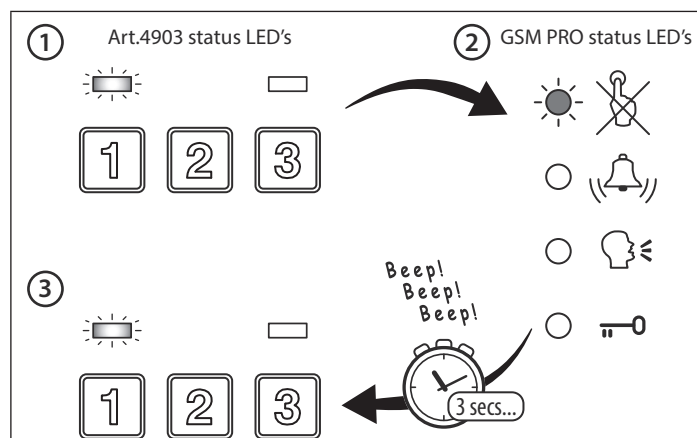

Fig. 104
2. The green data LED (**Fig.104, ①**) on the Art.4903 and the red busy LED (**Fig.104, ②**) on the GSM will flash one after the other;
3. The green data LED (**Fig.104, ③**) will then flash once and the appropriate relay (RLY1 or RLY2 depending on setup) will activate and keypad will emit a series of 1 second interval beeps for the duration of the programmed relay time.